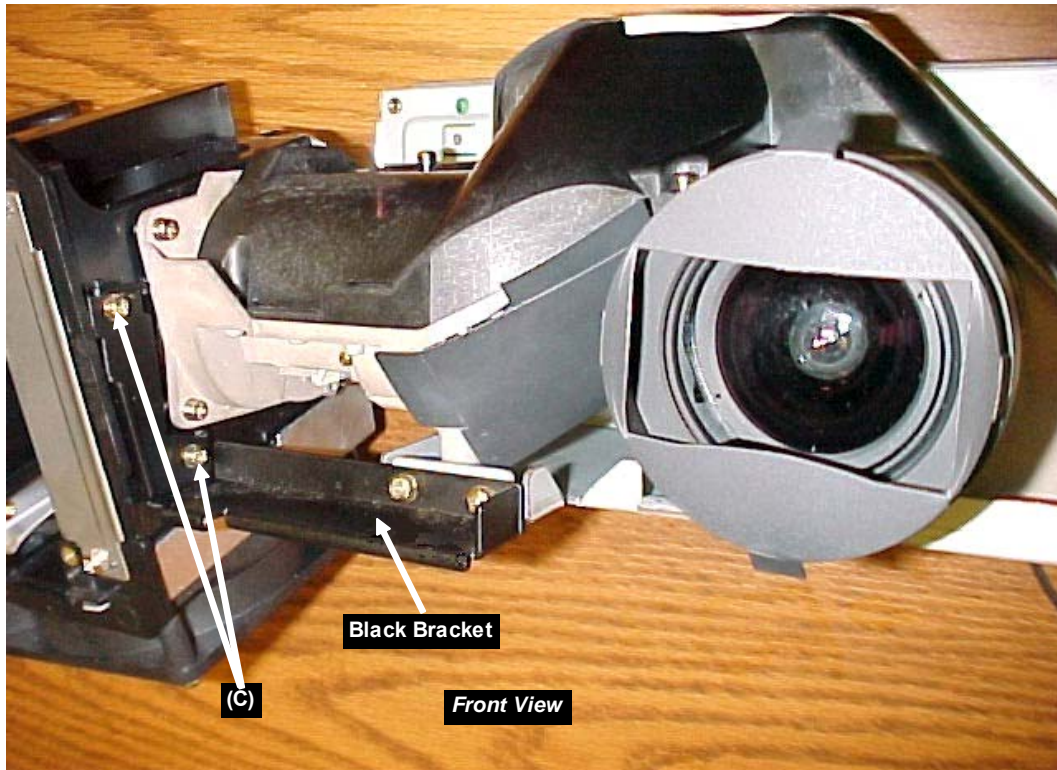

Figure 3: Black Support Bracket
- 2) Remove the two screws (c), holding the Black Bracket to the Lamp Cartridge Housing. (*Figure 3*)